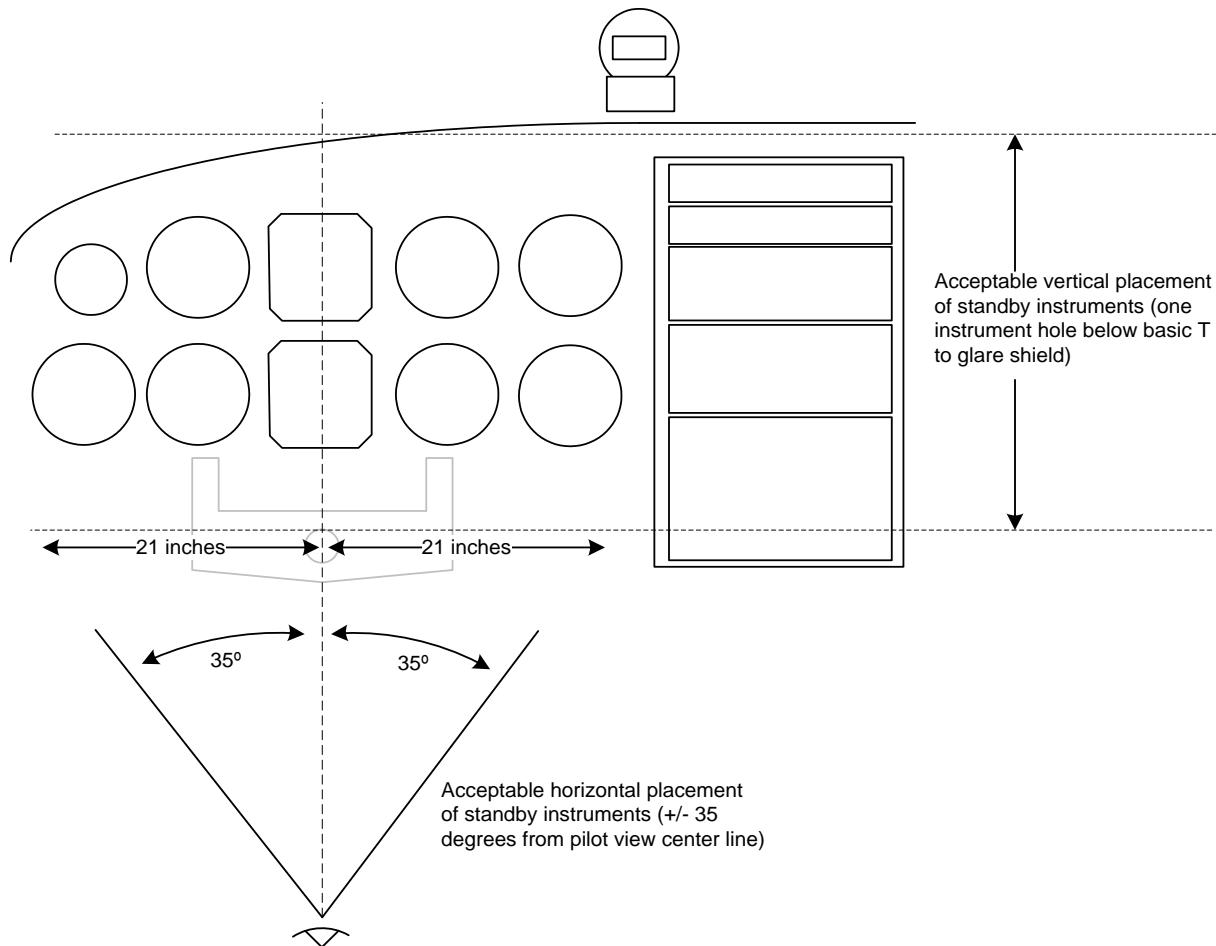

Figure 4-2: Flight Director/Backup Nav/Placard placement
Flight Director display – If the existing attitude indicator includes a flight director display then it must be relocated to a position within the pilot's primary maximum field of view in accordance with FAR 23.1321(a). The requirements are ± 35 degrees from the pilot's centerline horizontally (± 21 inches from centerline as defined by AC 23-1311-1b) to an area just below the basic T configuration to the glare shield vertically (see Figure 4-2 below). The EFD1000 E5 does not display flight director information.
The following placard is required and must be located near the EFD1000 E5 within the pilot's maximum field of view (see Figure 4-2). The placard must be in black and white (white letters on black background or black letters on white background) in a font no smaller than other placards in the aircraft and reads as follows:
4	Aircraft with Flight Director (FD) displays – Is there an acceptable location to relocate the existing FD Indicator (see section 4.4.3) in the pilot's field of view? (see Figure 4-2). –NA if no flight director.
5	Is a backup navigation indicator required (see section 4.4.5) – NA if no Backup NAV indicator is required. If a backup indicator is required, is there an acceptable location to mount or relocate a required backup NAV Indicator in the pilot's field of view? (see Figure 4-2)